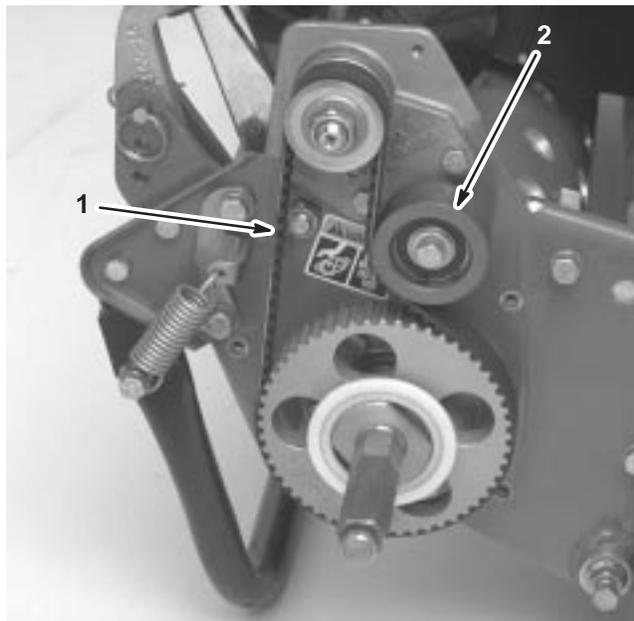

Figure 38
- Loosen the idler pulley mounting nut and pivot the idler pulley clockwise against the backside of the belt until the desired belt tension is attained (Fig. 38).